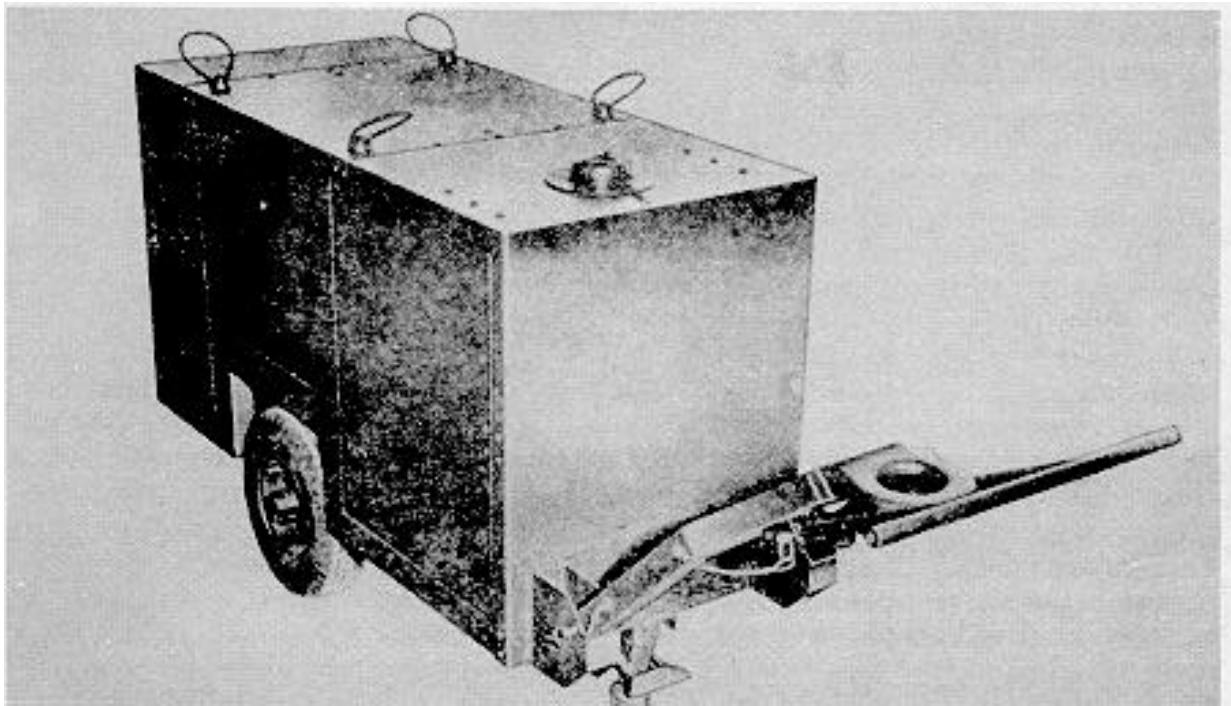

Figure 1-1. Compressor,-reciprocating, power driven, model 3800219 and 3800219-1, right front view.
1.3 GENERAL DESCRIPTION (See Figures 1-1 through 1-4)